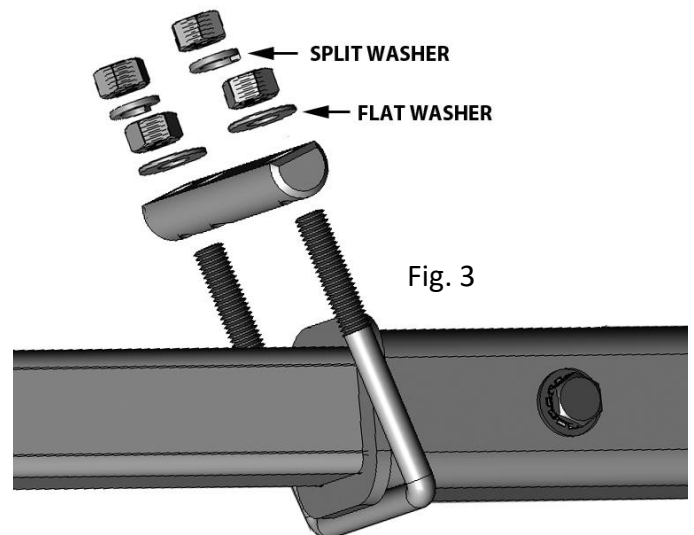

Fig. 3
3. Place the U-bolt below the receiver hitch and behind the flange per Fig. 3.